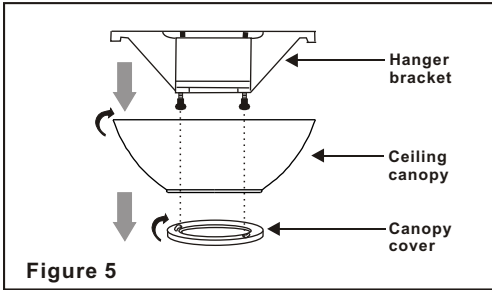

Figure 5
Step 1. Remove the decorative canopy bottom cover from the canopy by turning the cover counter clockwise.(Fig. 5)
Step 2. Remove the hanger bracket from the canopy by loosening the two screws on the bottom of the hanging bracket a half turn from the screw head and turning the canopy counter clockwise.(Fig. 5)